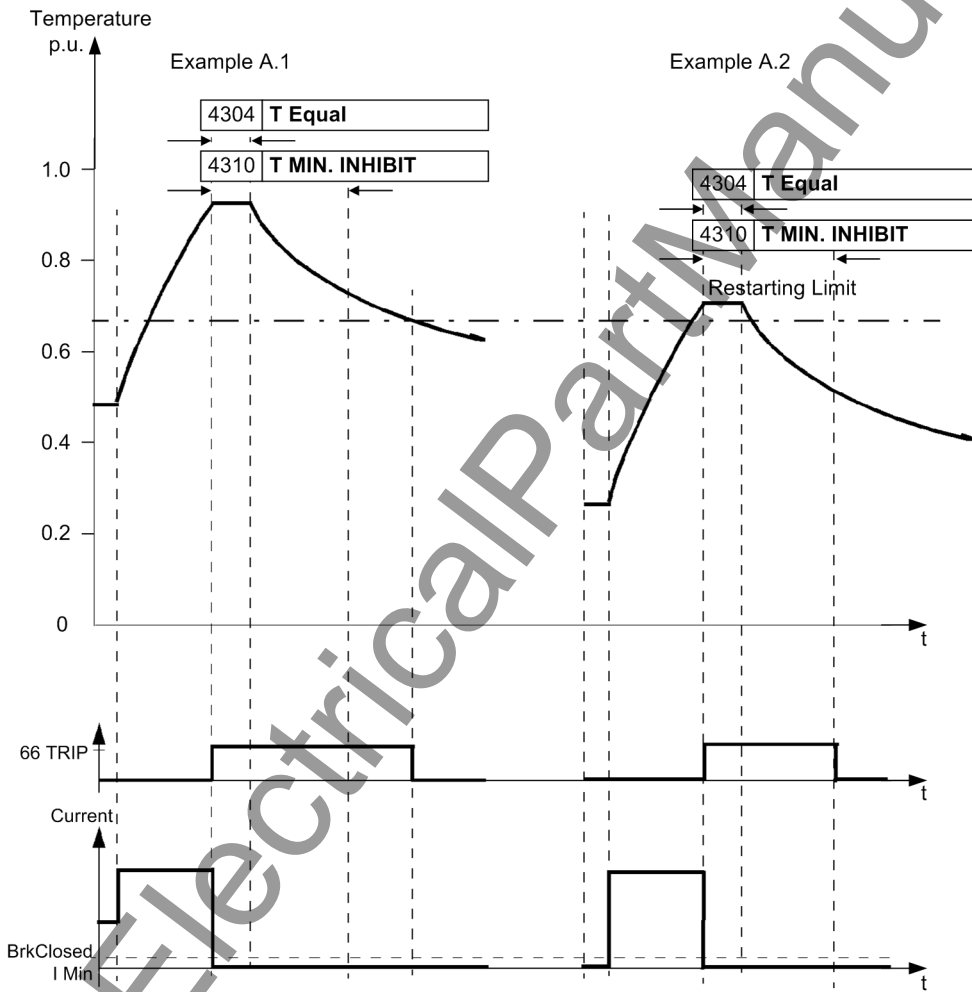

Figure 2-35 Starting up according to examples B.1 and B.2
1. A startup brings the machine from load operation into a temperature range far above the thermal restarting limit and the machine is stopped. The minimum inhibit time and the equilibrium time are started and „66 TRIP“ is reported. The temperature cool-down below the restarting limit takes longer than 4310 and **T MIN. INHIBIT** and 4304 **T Equal**, so that the time passing until the temperature falls below the temperature limit is the decisive factor for clearing the message „66 TRIP“. The thermal replica remains "frozen" while the equilibrium time expires (see Figure 2-35, to the left).
2. A startup brings the machine from load operation into a temperature range just above the thermal restarting limit and the machine is stopped. The minimum inhibit time and the equilibrium time are started and „66 TRIP“ is reported. Although the temperature soon falls below the restarting limit, the blocking „66 TRIP“ is preserved until the equilibrium time and the minimum inhibit time have expired (see Figure 2-35, to the right).